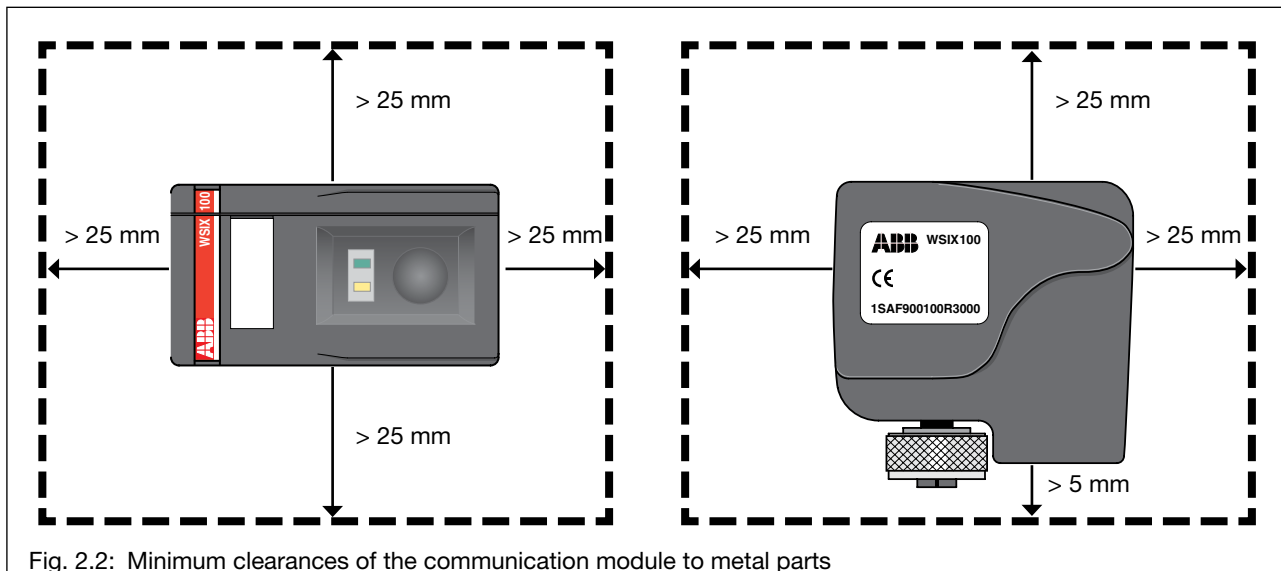

Fig. 2.2: Minimum clearances of the communication module to metal parts
- Minimum clearance to metal parts: refer to fig. 2.2.